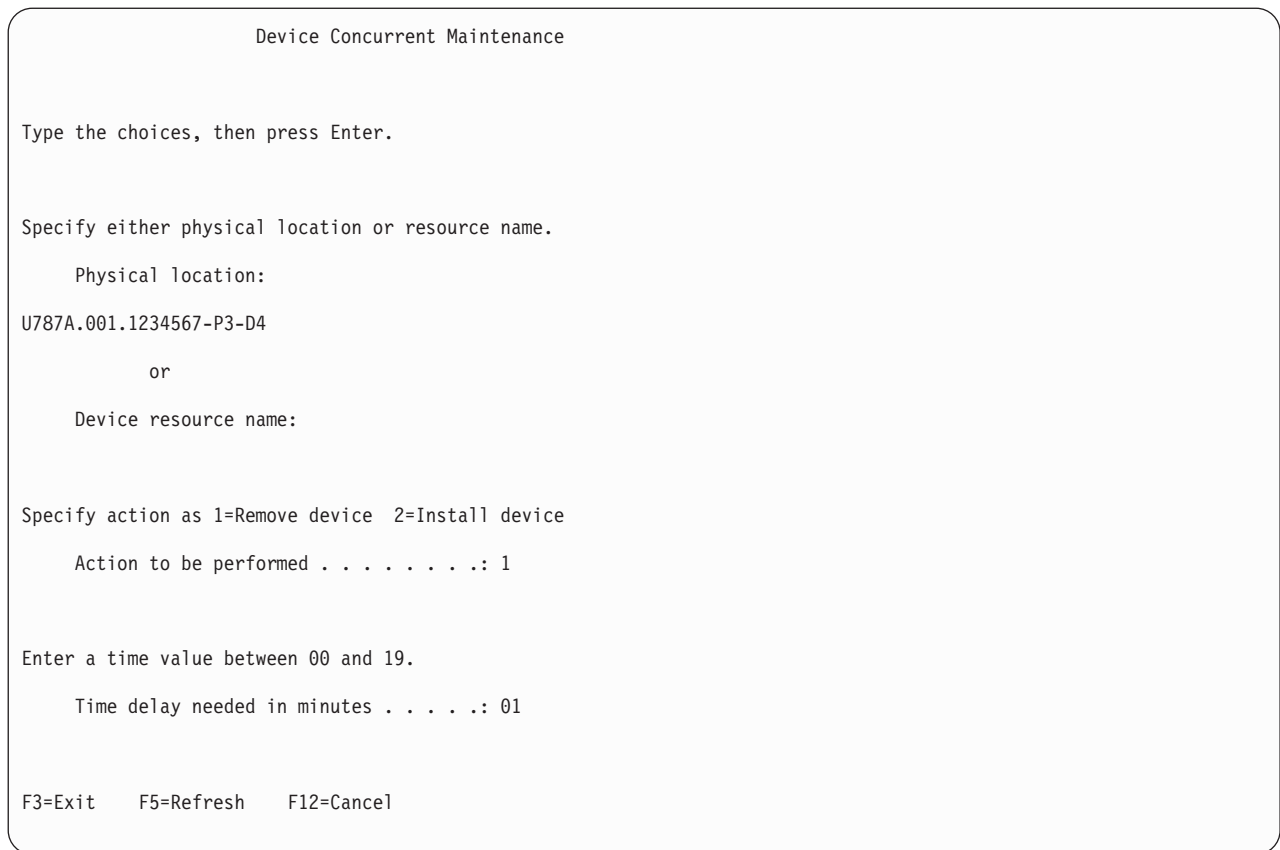

Figure 35. Example Device Concurrent Maintenance display
12. If the physical location does not appear in the Device Concurrent Maintenance display, type the physical location where you will be replacing the drive as shown in the preceding example, Figure 35.